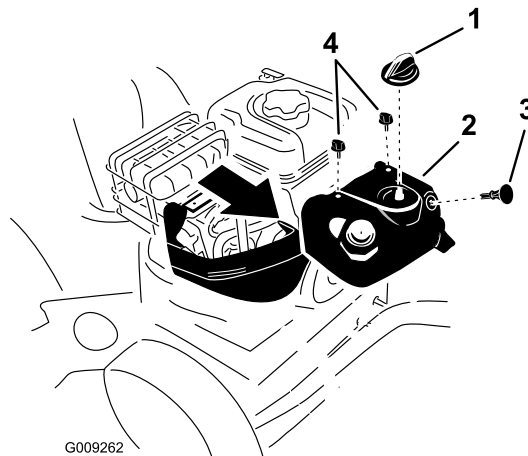

Figure 44
Note: To access the spark plug, you must first remove the upper snow hood (Figure 44).
1. Remove the choke knob and the ignition key (Figure 44).
2. Remove the 2 screws that secure the upper snow hood to the machine (Figure 44).